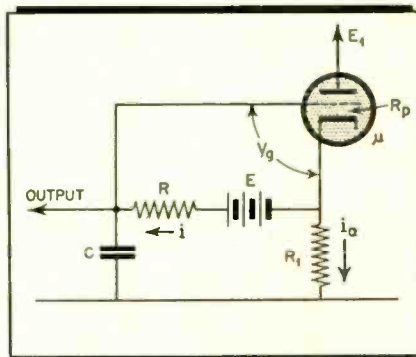

Figure 9
f. In a cathode follower the potential difference between the grid and the cathode remains almost constant so that an almost constant current must flow through  $R$  in Fig. 9, and  $C$  must charge up linearly.